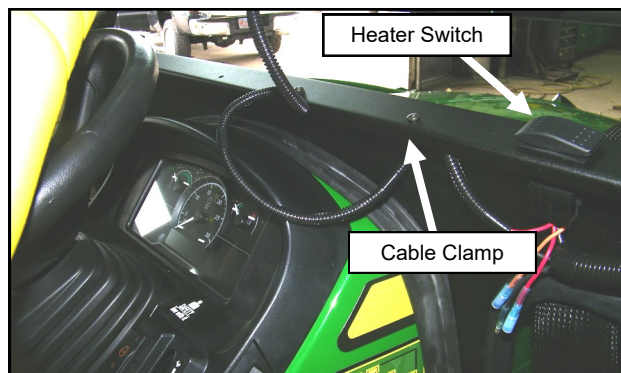

Fig. 13.4 (Secure Wire Harness)
13.4 Open the windshield and secure the wiring harness underneath the cowl using cable clamps. See figure 13.4.